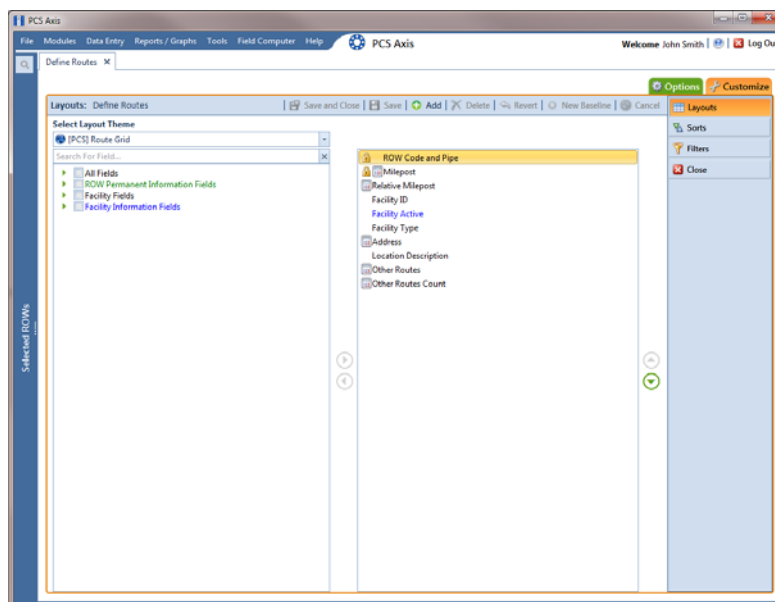

Figure 8-41. Layouts
- 3 Click the **Customize** tab  to view the *Layouts* page (Figure 8-41, page 364).
- 3 Click the **Customize** tab  to view the *Layouts* page (Figure 8-41).
- 3** Click the **Customize** tab  to view the *Layouts* page (Figure 8-41, page 364).